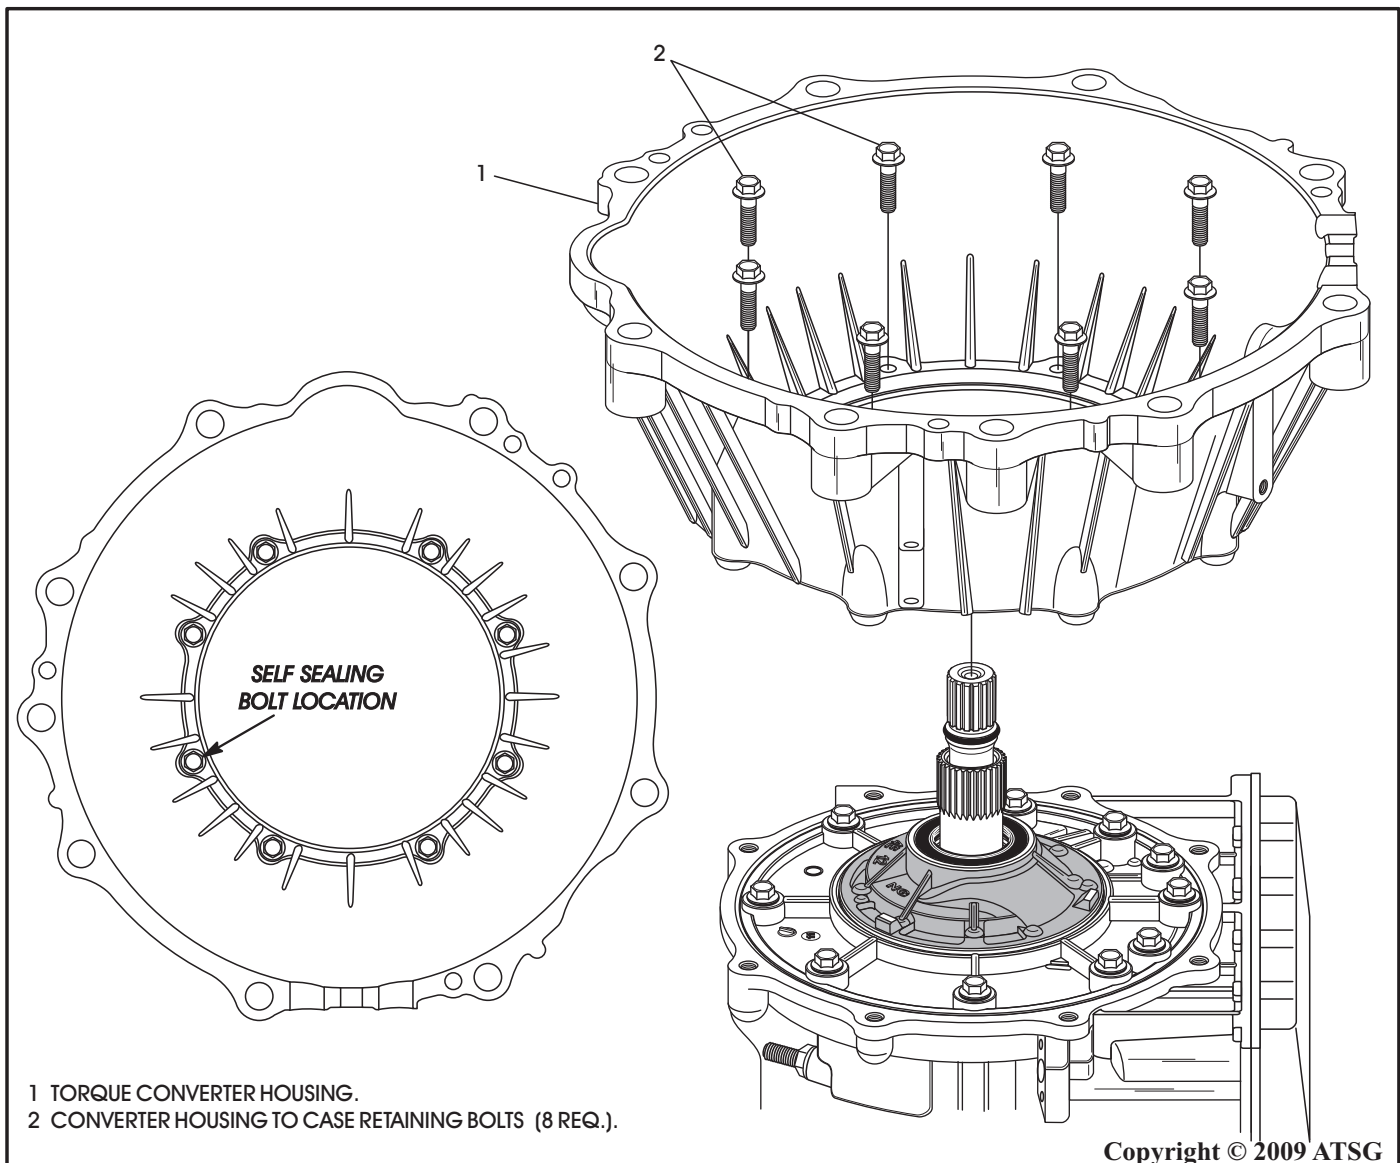

Figure 38
4. Remove the 8 converter housing retaining bolts, as shown in Figure 38, and remove converter housing from transmission case.